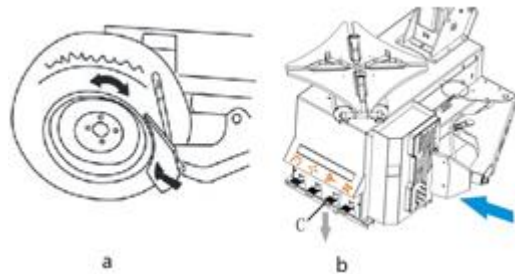

Fig.12
- Press down the pedal C (fig. 12) to activate the bead breaker and release it when the blade has reached the end of its travel or in any case when the bead is broken.